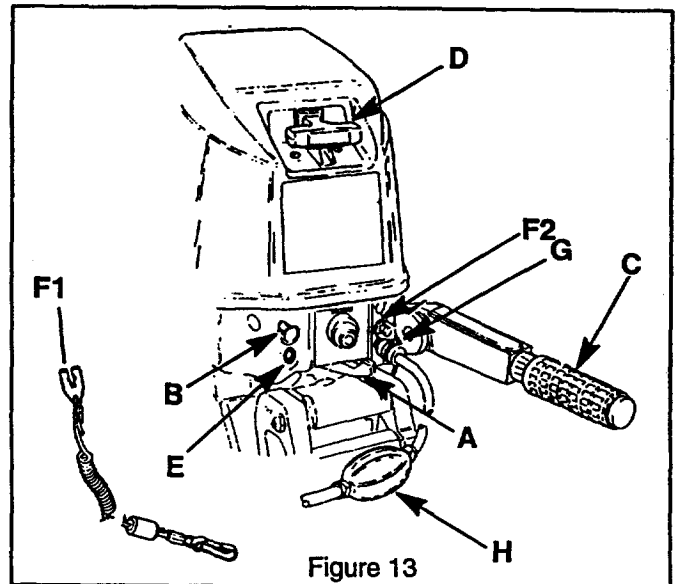

Figure 13
Rotate Throttle Twist Grip (C) to "Slow" position, shift engine (A) into "Neutral". Depress "Stop" button (E) (Figure 13) and hold in until motor stops completely.
- A lanyard stop switch (F2) is used to turn off the engine ignition whenever the operator (when attached to the lanyard F1) moves far enough away from the operator's position to activate the switch (Figure 13).